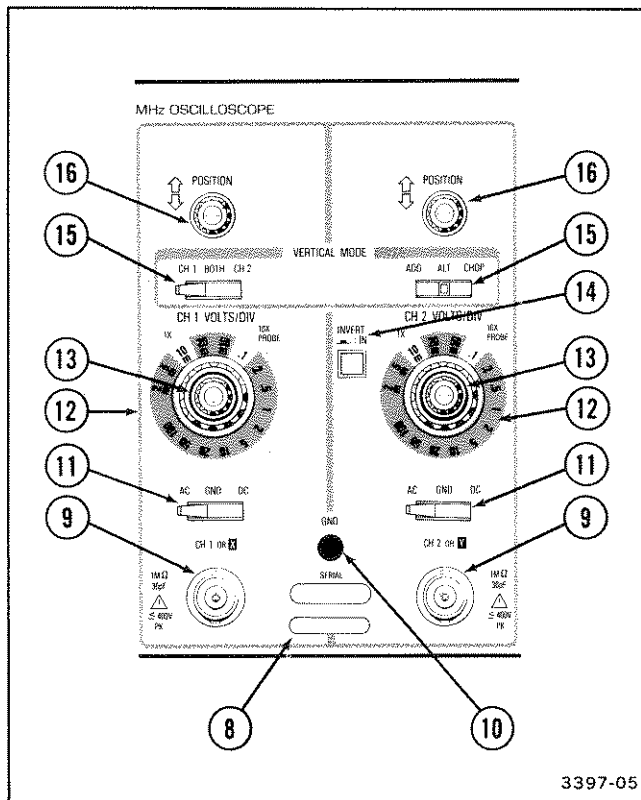

Figure 4. Vertical controls and connectors.
Refer to Figure 4 for location of items 8 through 16.
- ⑧ **SERIAL and Mod Slots**—The SERIAL slot is imprinted with the instrument's serial number. The Mod slot contains the option number that has been installed in the instrument.
- ⑨ **CH 1 OR X and CH 2 OR Y Connectors**—Provide for application of external signals to the inputs of the vertical deflection system or for an X-Y display. In the X-Y mode, the signal connected to the CH 1 OR X connector provides horizontal deflection, and the signal connected to the CH 2 OR Y connector provides vertical deflection.
- ⑩ **GND Connector**—Provides direct connection to instrument chassis ground.